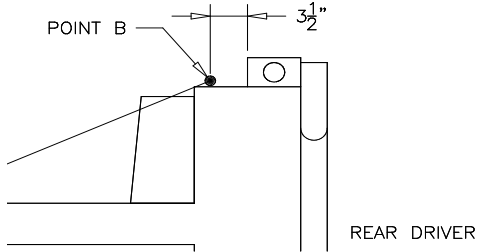
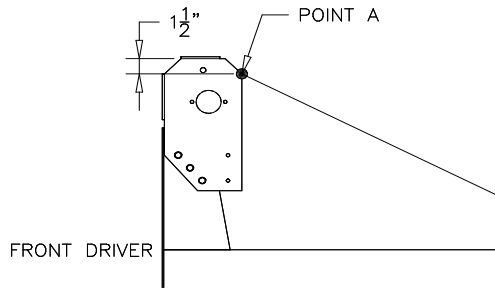
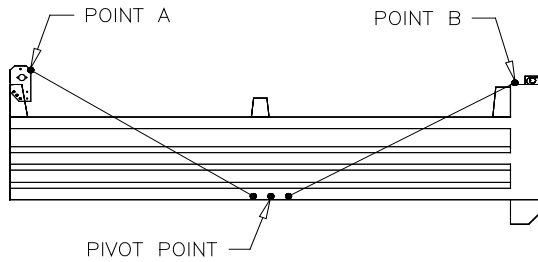

Figure 9
Figure 8
Figure 10
Measure from Point A (see Figure 8) to a point on the lower inside rib of the box that is close to the pivot point (see Figure 10). Mark this point and record the distance as X. Using distance X, measure from Point B (see Figure 9) to a point on the lower inside rib of the box (see Figure 10). Mark this point.
Divide the distance between the first and second mark by two and mark this point as the pivot point (see Figure 10).
Measure the distance from Point A (Figure 8) to the center of the 3/4" pin on the pivot arm bracket (T). Record this as "Distance C". Lay the bottom pivot arm on the ground with the mounting flat on the top side of the tubing. Place one of the top pivot arm on the bottom pivot arm so the remaining cast elbow is in line with it. Have the 1" pipe sticking up. Slide the top pivot arm along the bottom arm until the distance from the center of the 1" pipe to the center of the mounting hole is the same as the Distance C.
Slide the rear pivot arm crossmember (F) through the rear tarp pocket. Position the rear pivot arm crossmember at Point B (see Figure 9).
Adjust the rear pivot arm crossmember (F) and the pivot arm brackets (N) so they are at Point B (see Figure 9).